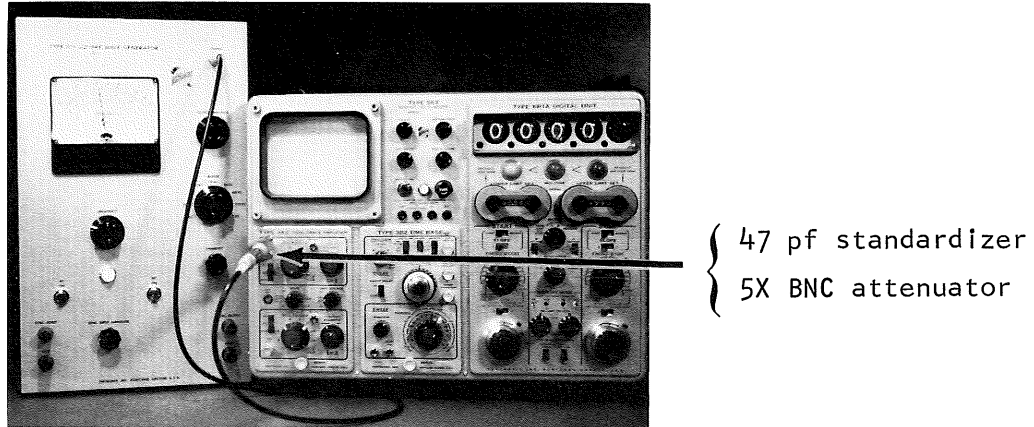

Figure 5-51
2. Connect the output of the 105 to the CH 1 input connector through a 5X BNC attenuator and a 47 pf standardizer. See Figure 5-51.